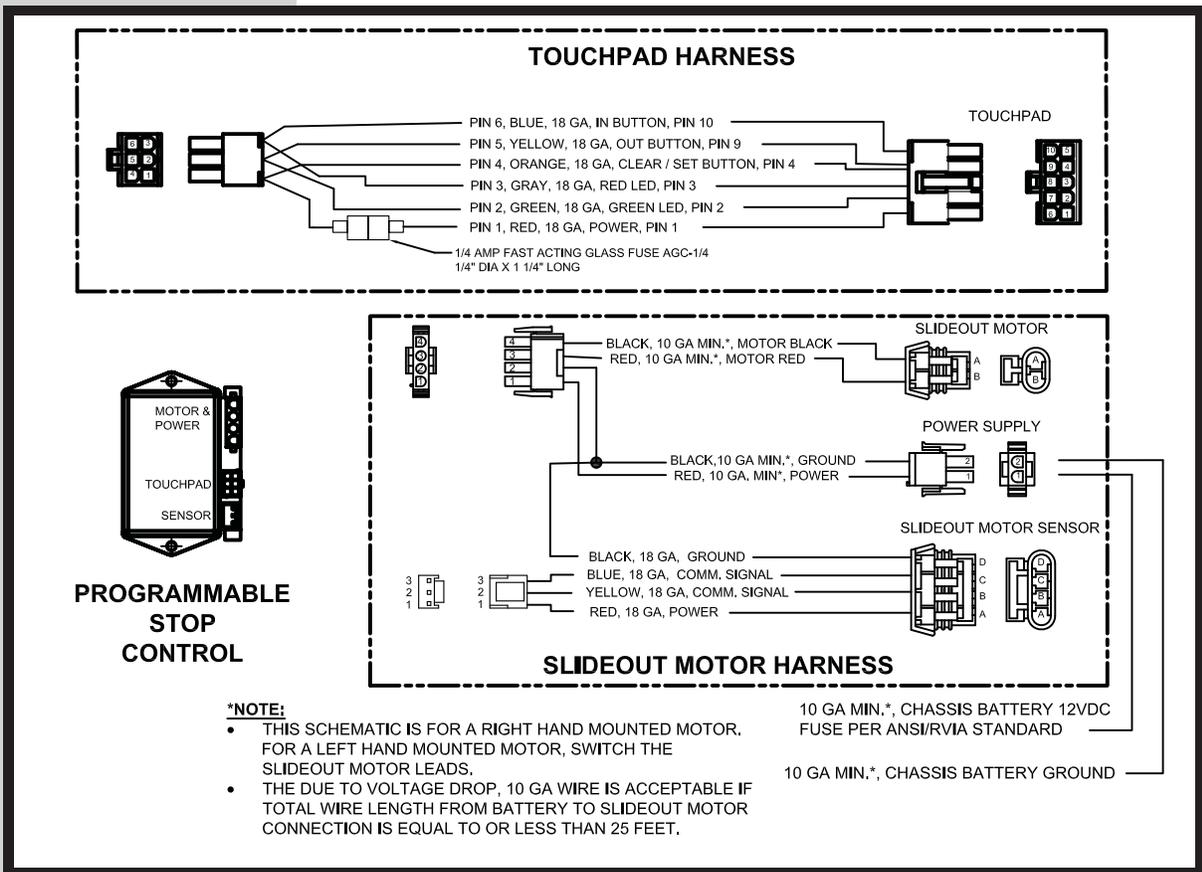

Figure 9
3. With your thumb, depress the spring lock lever on the right hand side of the boot cover. Then, rotate the override lever counter-clockwise with your index finger to disengage the motor brake. (**Figure 9**)
5. Once room is fully retracted, re-engage brake lever on motor (**Figure 9**).